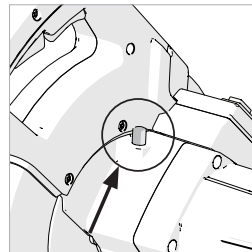

Fig. 39
- Press & keep pressed the black arbor lock button to lock the arbor. (**Fig. 39**)